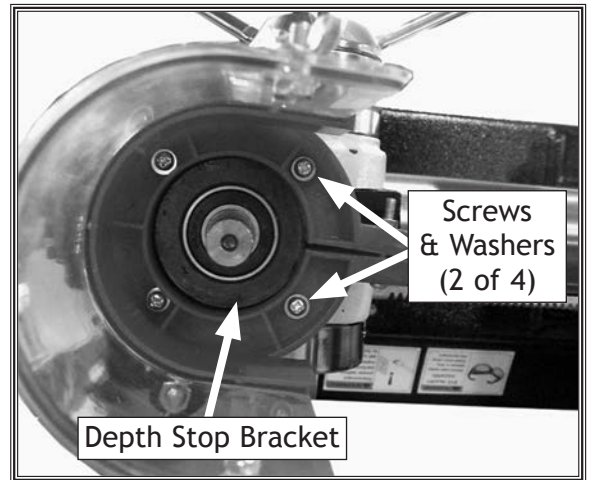

Figure 23. Chuck guard secured to depth stop bracket.
34. Secure chuck guard to bracket with four M4-.7 x 10 Phillips head screws and 4mm flat washers, as shown in Figure 23.